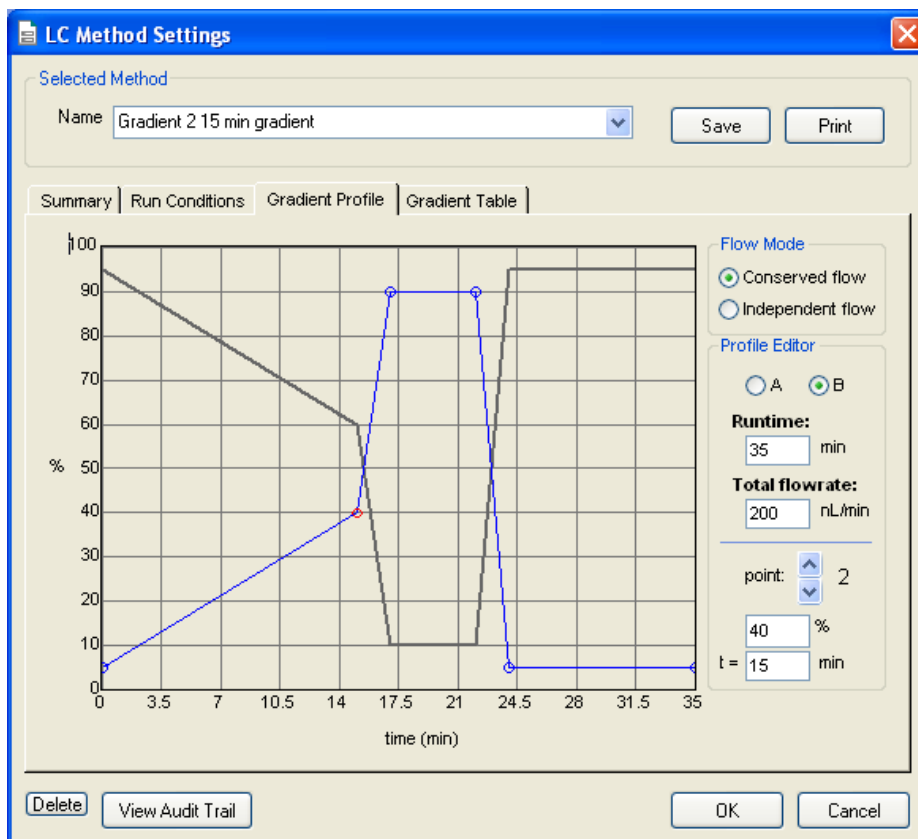

Figure 4-15 LC Method Settings Dialog—Gradient Profile Tab
10. Select the Gradient Profile tab to display the Gradient Profile dialog (Figure 4-15).